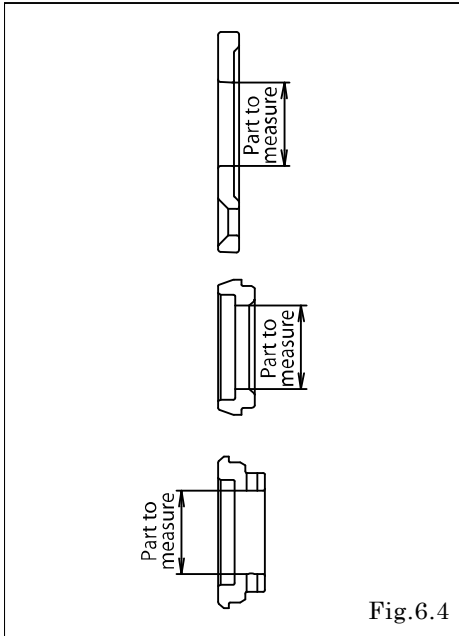

Fig. 6.4
- Guide bush stopper, guide bush A, guide bush B [Fig.6.4]